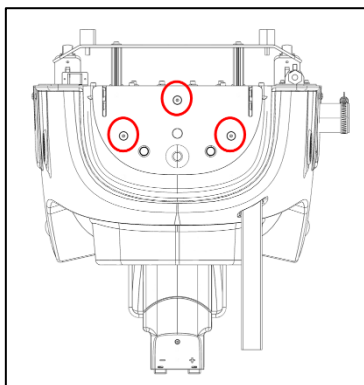

Fig. 2
1. Remove the 3-counter sunk M8 x 16 screws (Fig. 2).